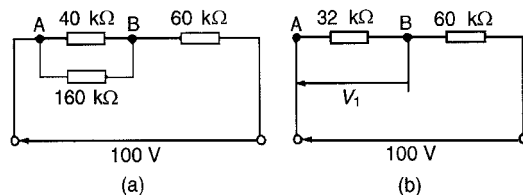

Figure 10.12
- (b) The resistance of a voltmeter having a 100 V f.s.d. and sensitivity $1.6\text{ k}\Omega/\text{V}$ is $100\text{ V} \times 1.6\text{ k}\Omega/\text{V} = 160\text{ k}\Omega$. When the voltmeter is connected across the $40\text{ k}\Omega$ resistor the circuit is as shown in Fig. 10.12(a) and the equivalent resistance of the parallel network is given by
The circuit is now effectively as shown in Fig. 10.12(b). Thus the voltage indicated on the voltmeter is